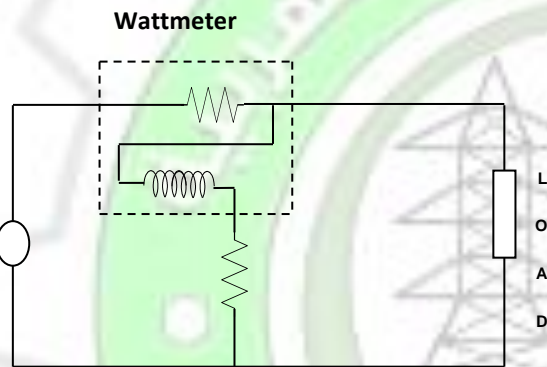

Fig. 3-1
- 1- Wire the circuit shown in Fig.3-1